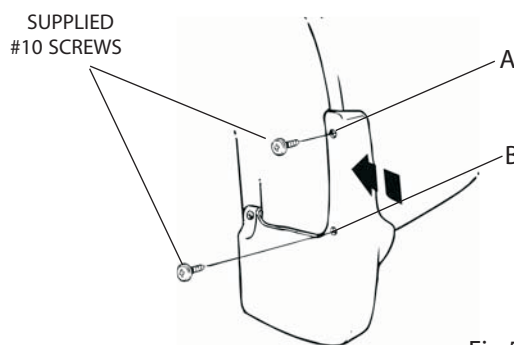

Fig.5
6. Install supplied #10 screws in locations A and B while holding part up and tight against bumper panel. See figure 5.